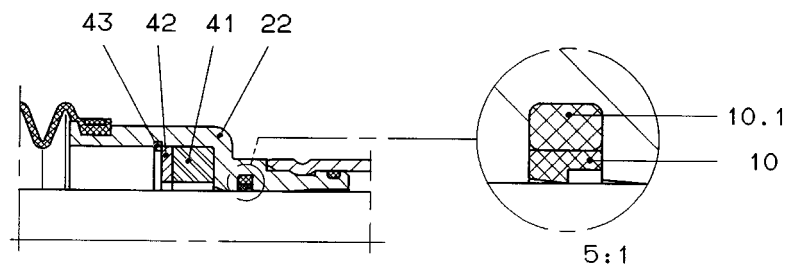

Fig. 22
Insert the slightly greased O-ring (10.1) into the inner radial groove of the cylindrical tube (22). Bend the greased seal (10) into the shape of a heart but avoid a kink. With the sealing edge pointing to the cylinder chamber, *see Fig. 22*, mount the seal on the O-ring (10.1).